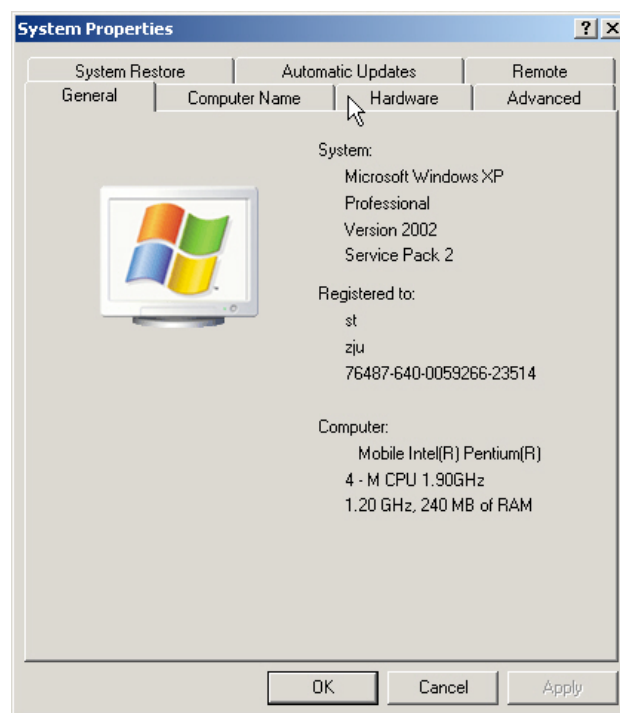

Fig.2.9
h) To check the hardware properties, click the right mouse button on **My computer icon** and select “**Properties**” from the pop up menu, there should pop up a properties dialog box as shown in Fig.2.9